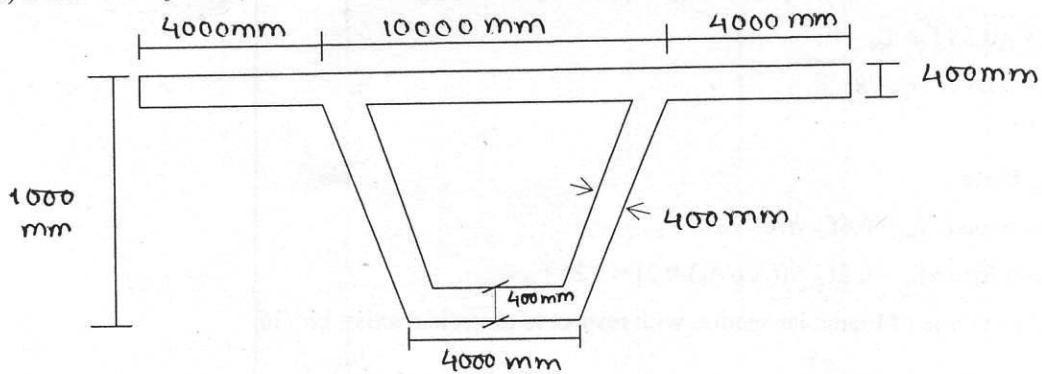

Figure 5
- (b) Determine k_b and k_t of the following section (Figure 5) (8)